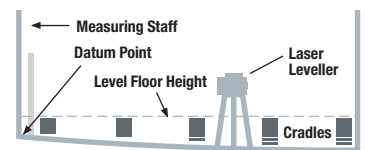

FIG. 5
- 5 Using a laser levelling system, establish the highest datum point of the floor. Calculate the difference between the datum point and every cradle and write the figure, on the floor, next to each cradle (Fig. 5)